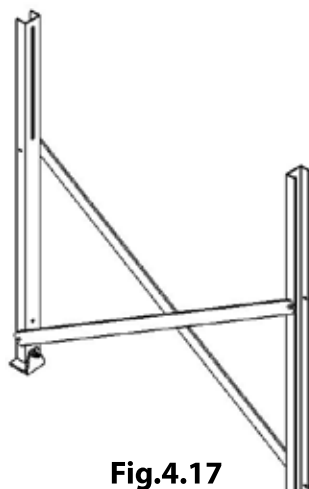
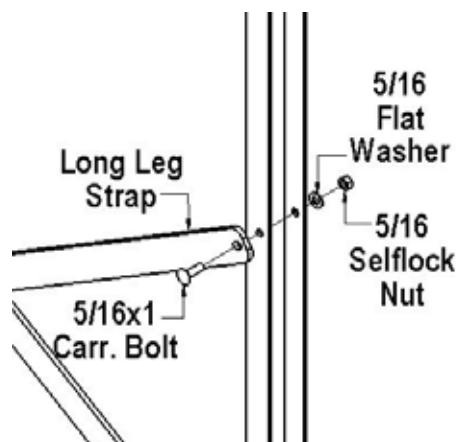

Fig.4.17
Fig.4.18
4.6 Long Leg Support: Long Leg Supports are required on any ramp with a rise of 27" or greater. Two leg brace straps will be required at each location requiring long leg supports. Attach the first leg brace strap to the leg channel, using the slotted hole at the end of the leg brace strap and the round hole punched in the leg channel, run a carriage bolt through both and fasten with washer and self locking nut on the inside of the leg channel (**Fig.4.18**). Finger tighten only, and attach the next strap on the other side of the ramp at the opposite end of the leg. Once hardware has been installed at both ends of the leg brace strap tighten hardware all of the way down (**Fig.4.17**). Repeat these steps on the other side of the legs running the straps the opposite direction so that the leg brace straps form an X between the ramp legs.